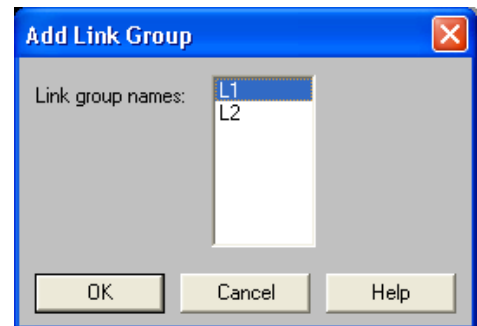

FIGURE 3-5: “Add to Link Group” Dialog
3. The “Add to Link Group” dialog appears, as shown in Figure 3-5. It lists only the link groups that contain processors identical to the selected block.